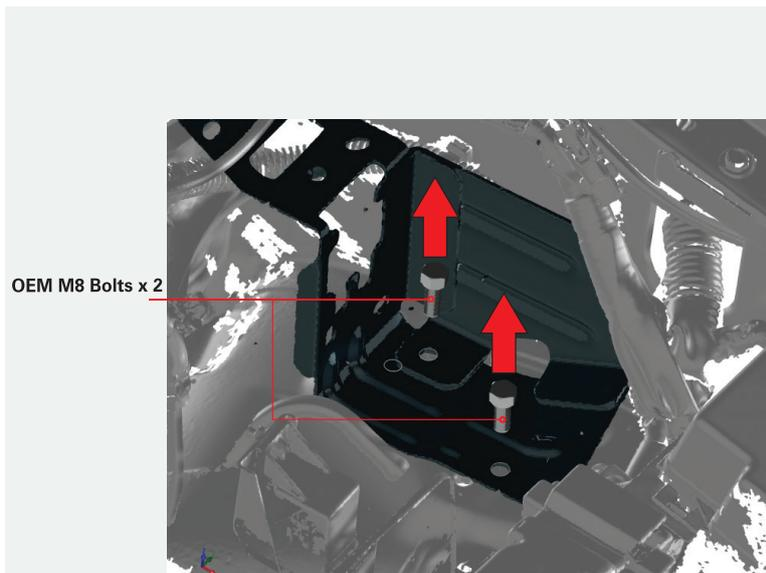

FIGURE 2A
- 4 Unscrew the 2 x OEM M8 bolts shown in FIG. 2A. Ensure you hold onto these M8 bolts, as you will be using these to fit the FB9817FC bracket later.